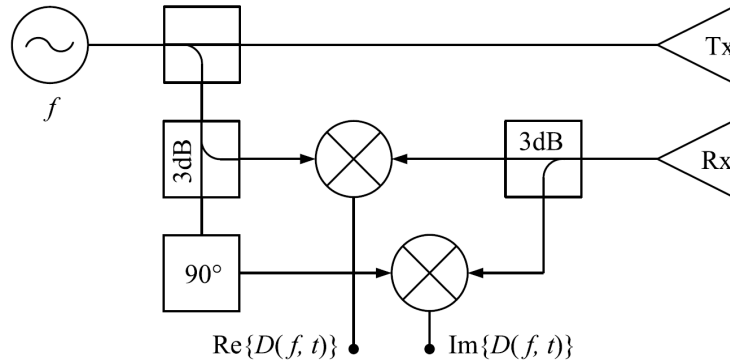

Figure 5.1: Generalized block diagram of a bistatic CW/FMCW radar system with one transmitter and one receiver channels and I/Q demodulator
The operation principle of a typical CW/FMCW radar system is demonstrated in figure 5.1 and will be described below. A radar consists of the following components:
It is obvious that the value of f_I can be positive as well as negative (depending on f_T and f_R), which explains the need for the I/Q demodulator in figure 5.1. Nevertheless, the following calculation will be based on real-valued sampling. Now we assume that the IF signal is digitized with a sampling frequency f_S for the time interval T . This yields a discrete Time-Domain (TD) signal with
Unfortunately, this statement doesn't take into account the direction of the target motion: positive as well as negative velocities of the same magnitude appear at an identical position in the IF signal spectrum. To resolve this ambiguity, the I/Q demodulator of the radar sensor (see figure 5.1) can be used. Positive and negative Doppler frequencies can easily be separated by using complex instead of real-valued IF signals. The mathematical background of this operation can be extracted from Fourier Transforms theory.